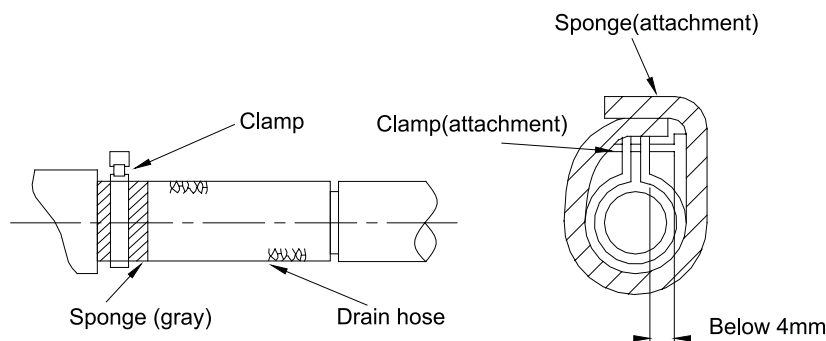

Figure 1-3-8
- To prevent bent of the drain hose, the distance between hoisting stand should be 1 to 1.5m. (As shown in Figure 1-3-8)